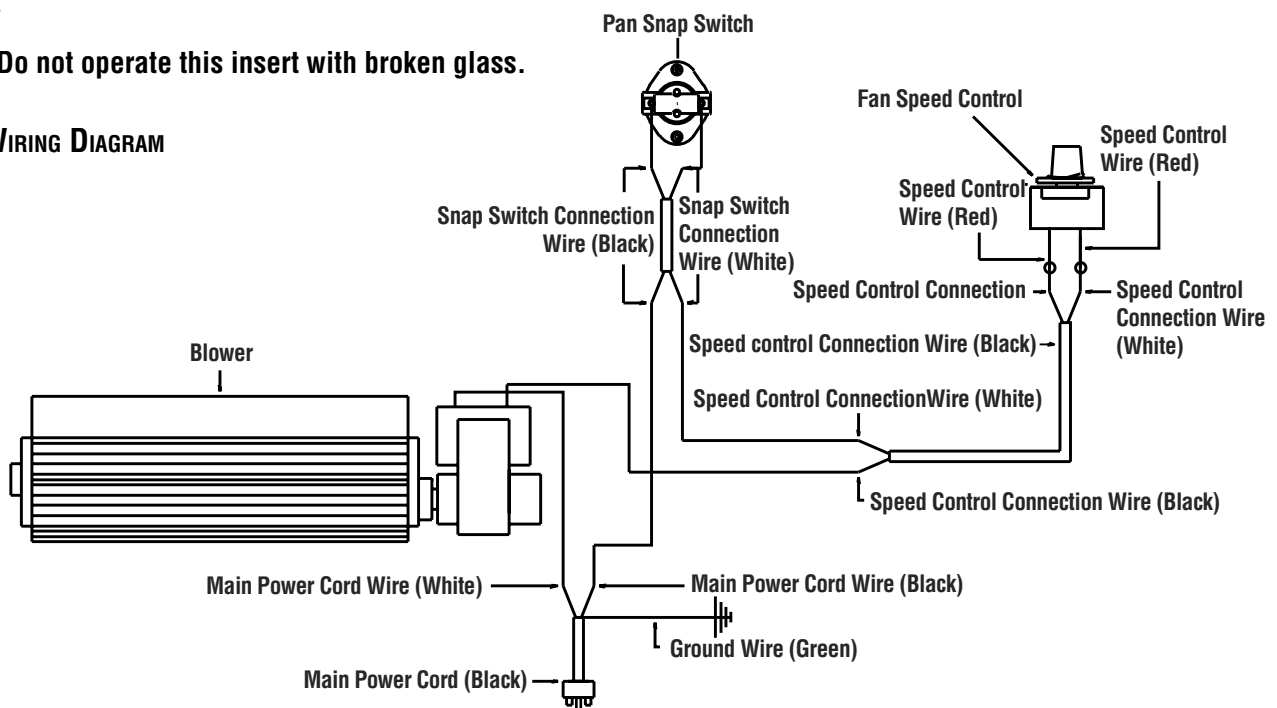

Figure 21
- See Blower Wiring Diagram (Figure 21) for information on the wiring and electrical requirements for the blower.